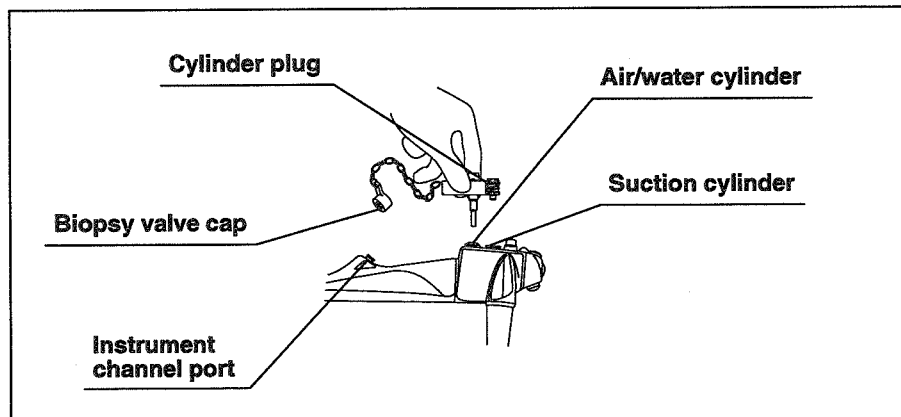

Figure 3.20
1. Attach the channel plug's biopsy valve cap to the instrument channel port (see Figure 3.20).
2. Lower the channel plug's cylinder plug onto the air/water and suction cylinders and slide the plug until it stops (see Figure 3.20).